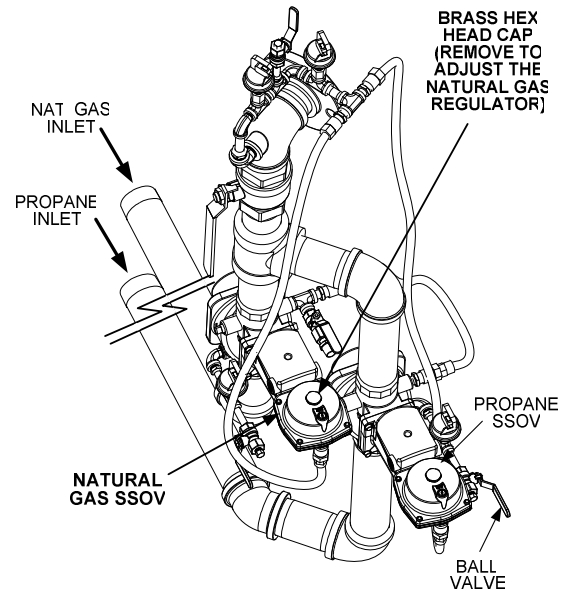

Figure 4-4
13. Next, increase the fire rate to 100%. Verify that the gas pressure downstream of the SSOV is 5" W.C. for both FM and IRI gas trains. If gas pressure adjustment is required, remove the brass hex head cap on the SSOV (Figure 4-4). Make gas regulator adjustments using a short, flat-tip screwdriver to obtain 5" W.C.